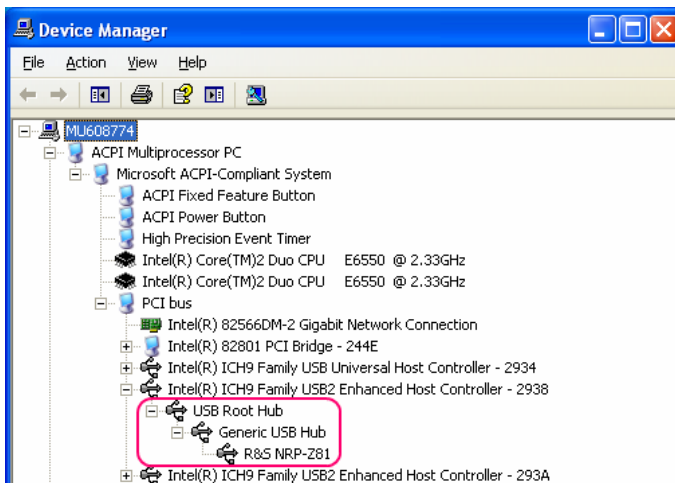

Fig. 1-8 Identification of USB root hub on which R&S NRP-Z5 is operated
3. Now identify the USB root hub on which the R&S NRP-Z5 is operated. To do so, expand the hierarchical display of the PC components, as shown in Fig. 1-8. Under **PCI bus**, find the USB host controller to whose root hub the R&S NRP-Z5 is connected. The R&S NRP-Z5 is shown as the **Generic USB Hub**. It can be distinguished from other USB hubs by the power sensor connected to it.